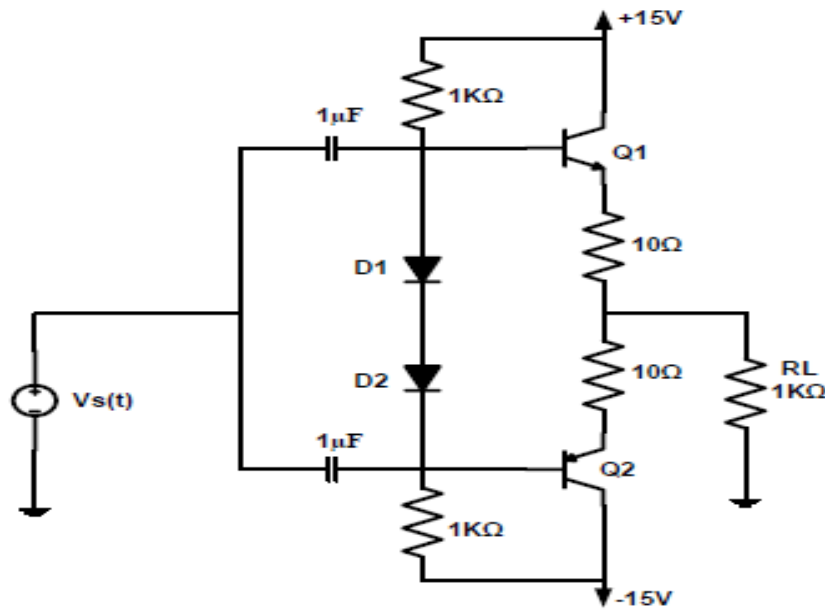

Figure 12
1. The circuit in Figure 12 was connected